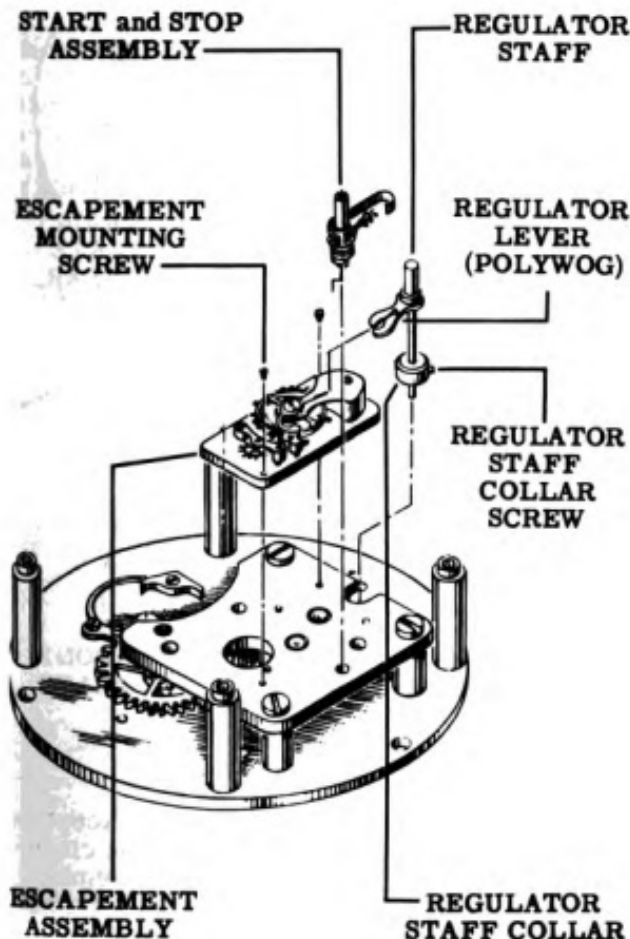

Figure 35
14. Lift out the start and stop assembly. Disassembly of this unit is not required for the purposes of cleaning unless some of the parts are damaged and require replacement. See Fig. 35.
15. Lift out the regulator staff with its collar. Disassembly of this unit is not required for the purposes of cleaning unless some of the parts are damaged and require replacement. See Fig. 35.